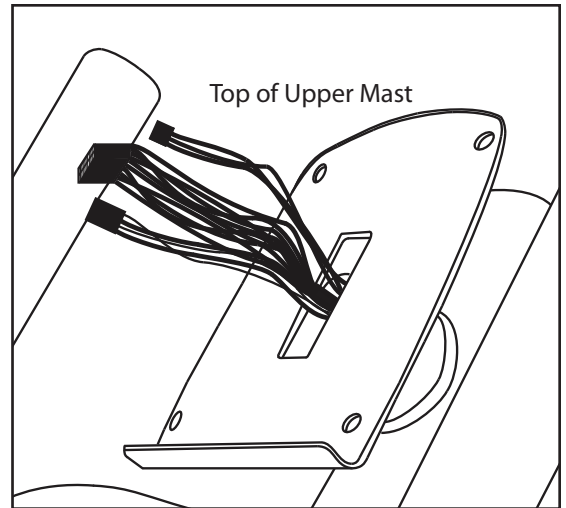

Figure 12
- 7-1 Route the Main cable and the TV cable located at the top of the lower mast through the bottom of the upper mast weldment and exit out the console plate (see Figure 12).